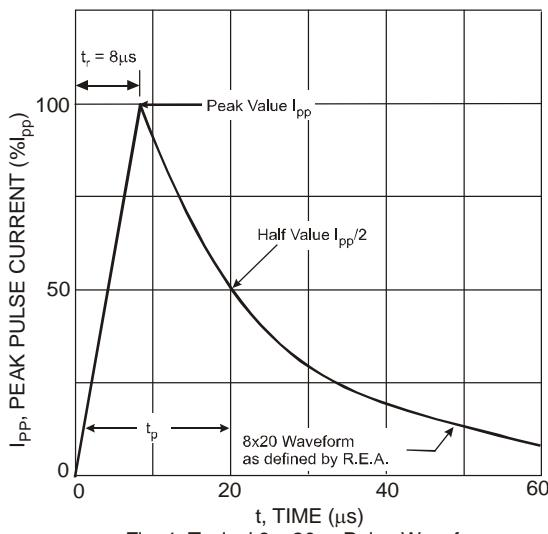

Fig. 1 Typical 8 x 20μs Pulse Waveform
4. Measured from pin 1 to 3 or pin 2 to 3; Non-repetitive current pulse per Fig. 1.